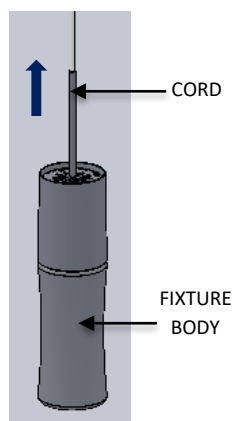
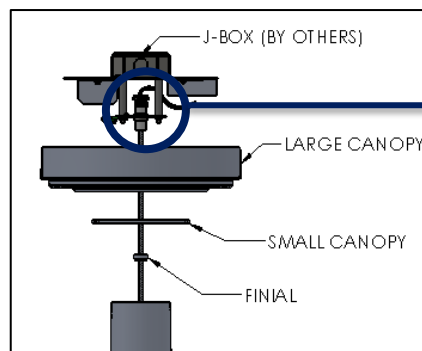
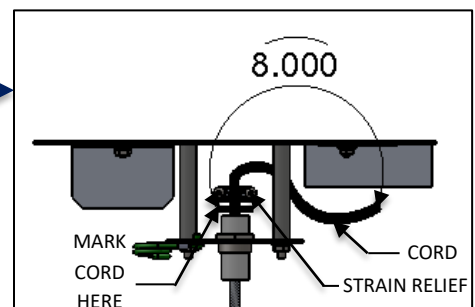

FIG. 10 – FIXTURE
FIG. 11 -CORD INSTALLATION
FIG.12 – DETAIL SHOWING
4. Raise the BAMBOO FIXTURE and pass the cord through CANOPY FINIAL, CANOPY AND ALL THREAD. ADJUST FIXTURE DROP TO DESIRED HEIGHT as shown below in FIG. 10. Mark cord with marker inside of DRIVER MOUNTING BRACKET as shown below in FIG. 11. Trim off excess cord leaving minimum of 8.00" past the top of the DRIVER MOUNTING BRACKET all thread as shown below in FIG. 12.